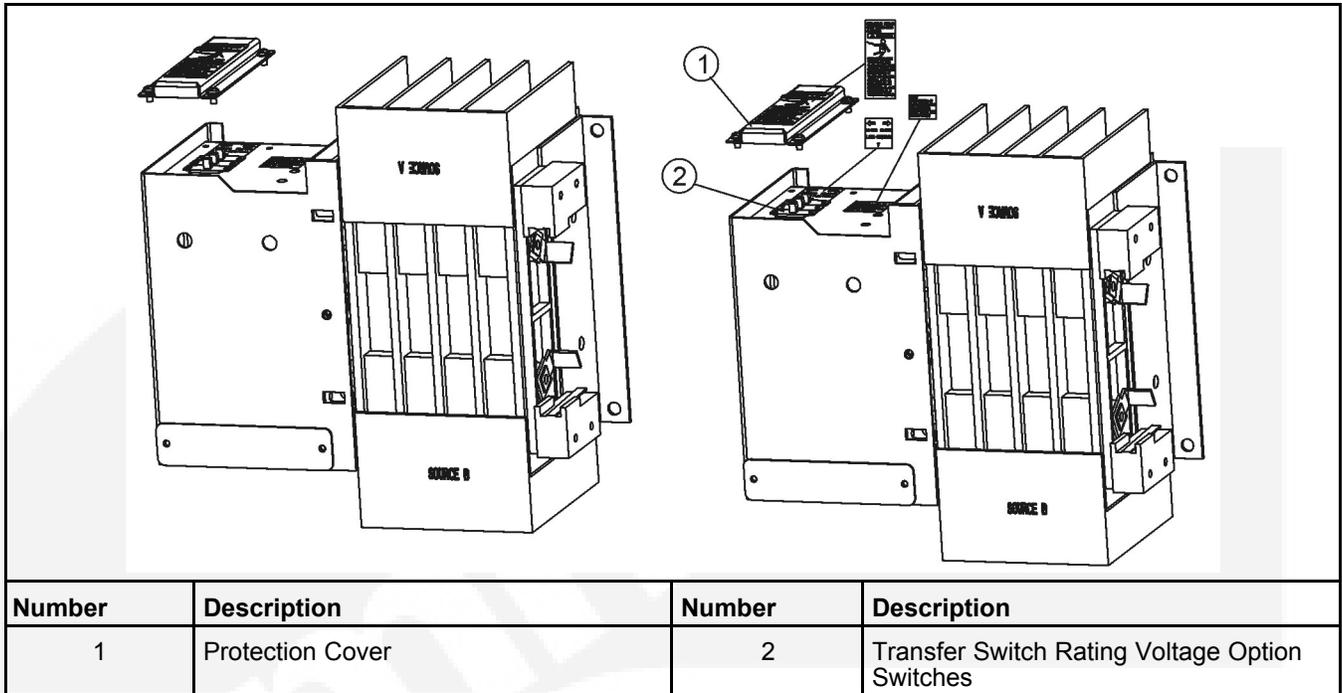
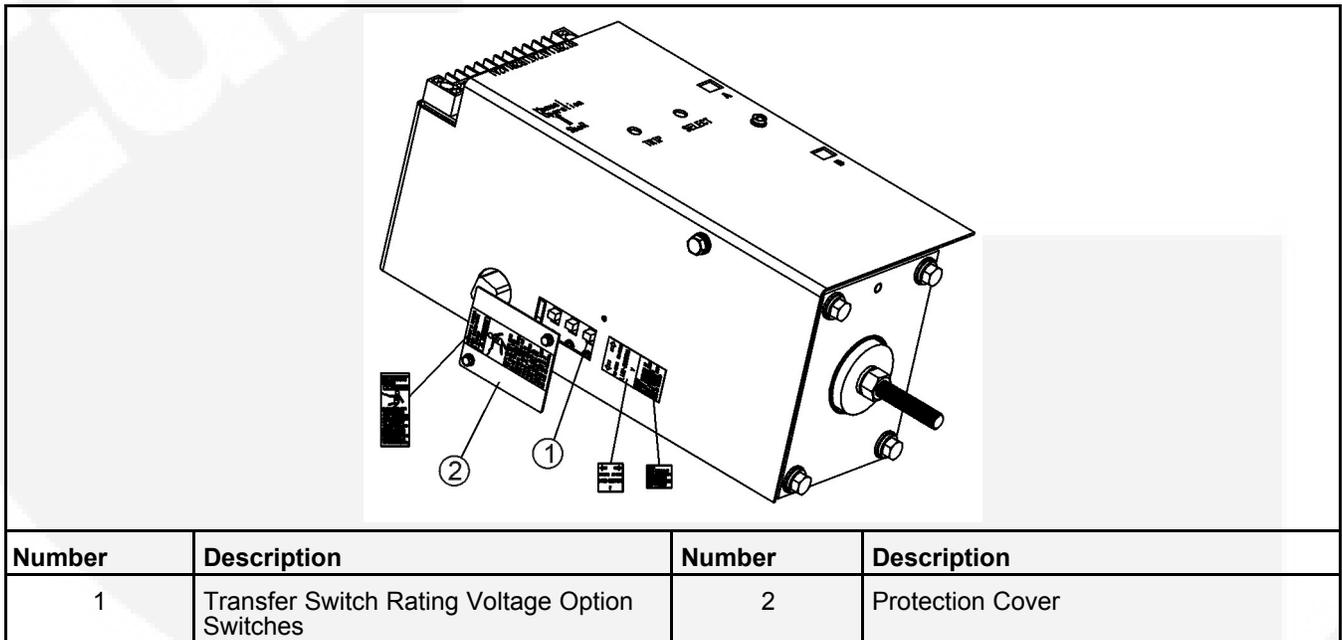

FIGURE 22. 20-500 AMP TRANSFER SWITCH (SPEC B SHOWN)
FIGURE 23. 630-1250 AMP TRANSFER SWITCH (SPEC B SHOWN)
Figure 22 and Figure 23 shows that transfer switch rating voltage can be changed with three voltage option switches installed on the top of transfer switch with current frame from 20 to 500 amp or left side of transfer switch with current frame from 630 to 1250 amp. And the protection cover is installed to prevent the incorrect manipulation.
2. Remove the protection cover shown in Figure 22 and Figure 23
Slide the handles of switches to required voltage position according to the label as show on Figure 22 and Figure 23. Make sure to move the handles to end position.